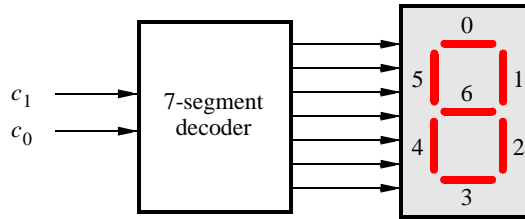

Figure 1: A 7-segment decoder.
The objective of this part is to display a character on a 7-segment display. The specific character displayed depends on a two-bit input. Figure 1 shows a *7-segment decoder* module that has the two-bit input  $c_1c_0$ . This decoder produces seven outputs that are used to display a character on a 7-segment display. Table 1 lists the characters that should be displayed for each valuation of  $c_1c_0$  for your DE-series board. Note that in some cases the ‘blank’ character is selected for code 11.
2. Create a Verilog module for the 7-segment decoder. Connect the  $c_1c_0$  inputs to switches  $SW_{1-0}$ , and connect the outputs of the decoder to the  $HEX0$  display on your DE-series board. The segments in this display are called  $HEX0_0, HEX0_1, \dots, HEX0_6$ , corresponding to Figure 1. You should declare the 7-bit port